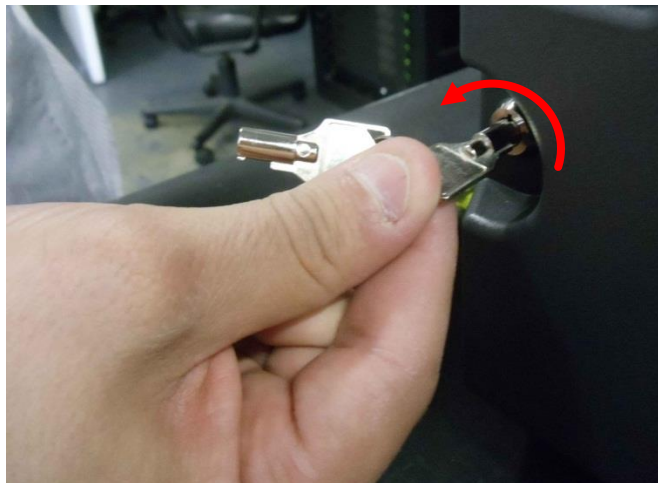

Figure 19: Turning the Lock
- Turn the key to lock the projector in place (Figure 19).